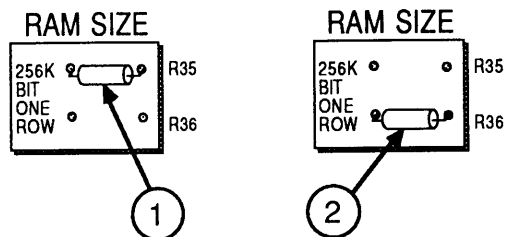

FIGURE 10
The standard 1-megabyte RAM configuration consists of four 256K SIMMs installed in both rows on the Macintosh SE logic board. The presence of resistor R35 (marked "256K BIT")—soldered to the logic board as shown in Figure 10, #1—tells your computer that 256K SIMMs are installed in both rows on the logic board. You will need to cut or remove resistor R35 to upgrade computer RAM; computers configured with 1 MB of RAM can be upgraded to 2.5 MB and 4 MB.
The standard 2 MB configuration has two 1 MB SIMMs installed in the first row (SIMM sockets 1 and 2) on the logic board. The presence of resistor R36 (marked "ONE ROW")—soldered to the logic board as shown in Figure 10, #2—tells your computer that only one row of 1 MB SIMMs is installed on the logic board. If you are adding a second row of SIMMS to the logic board, resistor R36 must be cut or removed.
- a) Locate resistor R35, marked "256K BIT" (Figure 10, #1). Using small diagonal cutters, clip the resistor off the board and discard it. (You do not need to desolder the leads from the board.)